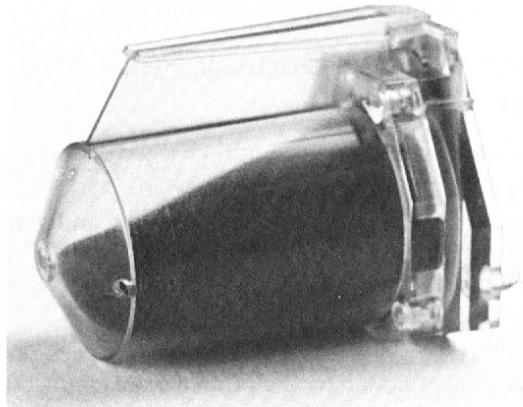
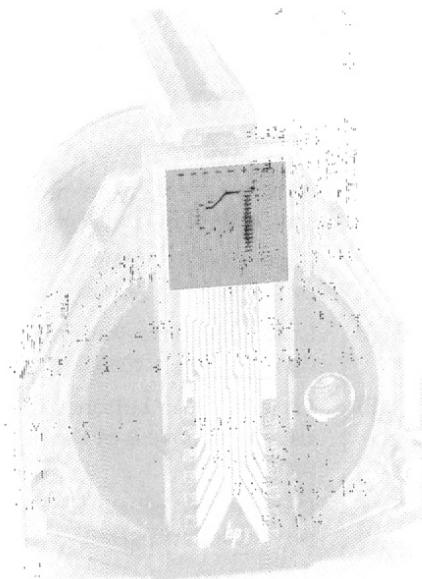

Figure 4-1 Empty Cartridge
Figure 4-2 Wipe Area
7. Dot rows are missing.	<ul style="list-style-type: none">• Check that there is sufficient ink in the cartridge by viewing the bladder. If the bladder is collapsed, replace the cartridge. See Figure 4-1.• Check that the paper used is an ink jet paper.• Gently wipe the face of the print head using a tissue to remove any accumulated dust. See Figure 4-2. If the print head cartridge has not been used for a prolonged period, moisten the tissue with water before wiping.
8. Carriage moves but printer does not print.	<ul style="list-style-type: none">• Gently wipe the face of the print head using a tissue to remove any accumulated dust. See Figure 4-2. If the print head cartridge has not been used for a prolonged period, moisten the tissue with water before wiping.• Lightly wipe the electrical connector of the print head carriage using a cotton swab dipped in alcohol.• If the problem continues, replace the print head cartridge.
<ul style="list-style-type: none">• Check that there is sufficient ink in the cartridge by viewing the bladder. If the bladder is collapsed, replace the cartridge. See Figure 4-1.• Gently wipe the face of the print head using a tissue to remove any accumulated dust. See Figure 4-2. If the print head cartridge has not been used for a prolonged period, moisten the tissue with water before wiping.• Lightly wipe the electrical connector of the print head carriage using a cotton swab dipped in alcohol.• If the problem continues, replace the print head cartridge.